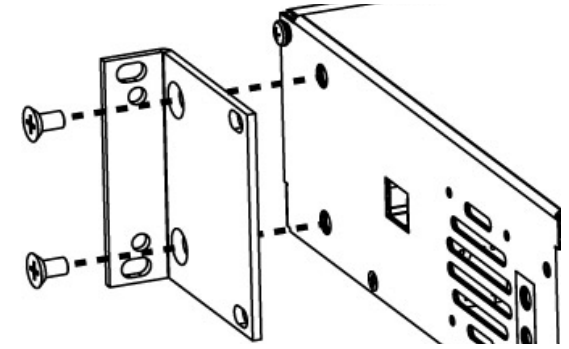

Figure 1. Mounting Ears (19 in. shown)
Step 1. Attach the two (2) front mounting ears in the appropriate configuration using the included 1/4 in.-20 hardware as shown in Figure 1.